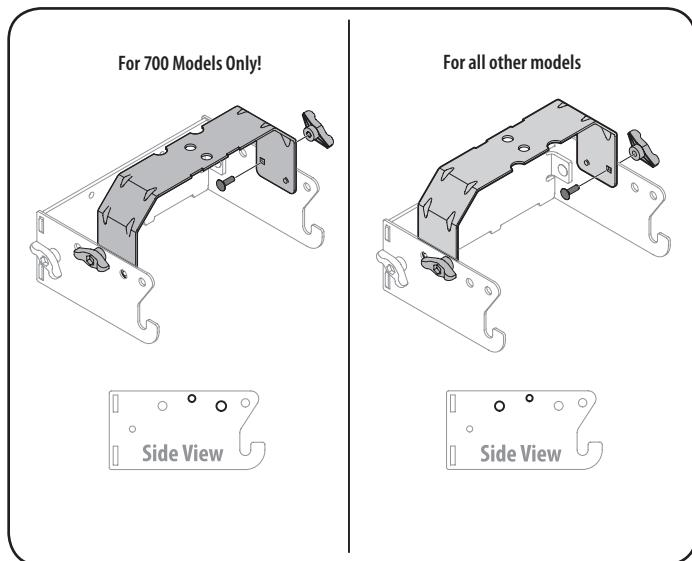

Figure 7
2. Flip over assembly and mount the hitch support bracket to the mounting assembly as shown in Figure 7.
Note: The holes closest to the mounting hooks are to be used for all 700 model series machines, while the two holes closest to the cross mount are for all other models. The hitch support bracket will need to be flipped to enable alignment of the proper holes depending on the model of machine this bagger is being installed on. See Figure 7.